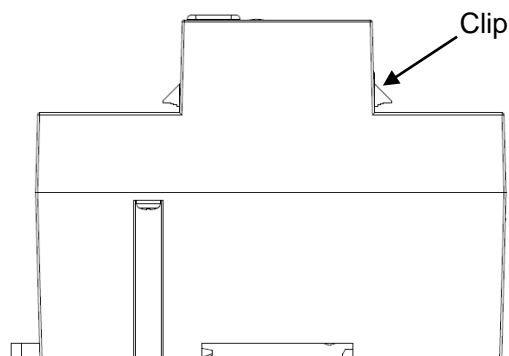

Figure 2-2 Chip on the neck
2. Next, make sure the clip on the neck of the Controller is in place and snaps into position while pushing, meanwhile make it tightly connects with the cabinet panel as shown in Fig. 2-2.